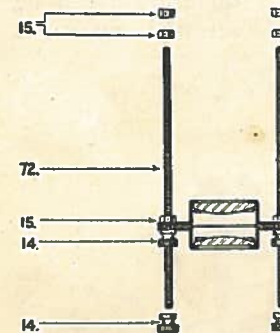

Fig. 22.
THE ILLUMINATION UNIT. (Figs. 22, 23.)
2. Thread Mounts on to two 5in. Screwed Rods (72), see Fig. 22. Securing same by means of a Hexagonal Nut (15) at the top and a Terminal Nut (14) at the bottom, the Ring Mounts